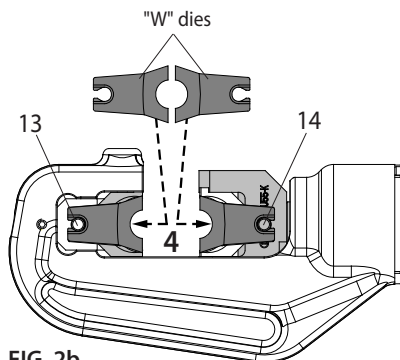

FIG. 2b
- Press pins (13 and 14) and insert one "W" die into the upper adaptor AU55-B and the other into the lower adaptor AU55-B (4) (see Fig. 2b); to disassemble them it will be sufficient to press the pins and to slip them from the head.